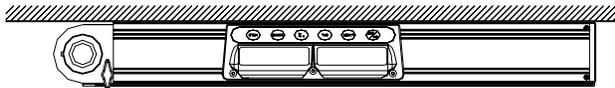

Figure 9
(1) As shown in figure 9, place the instrument against C plane and power on, notice the LCD display (left), wait 10 seconds till the displayed data stable and record the angle value.